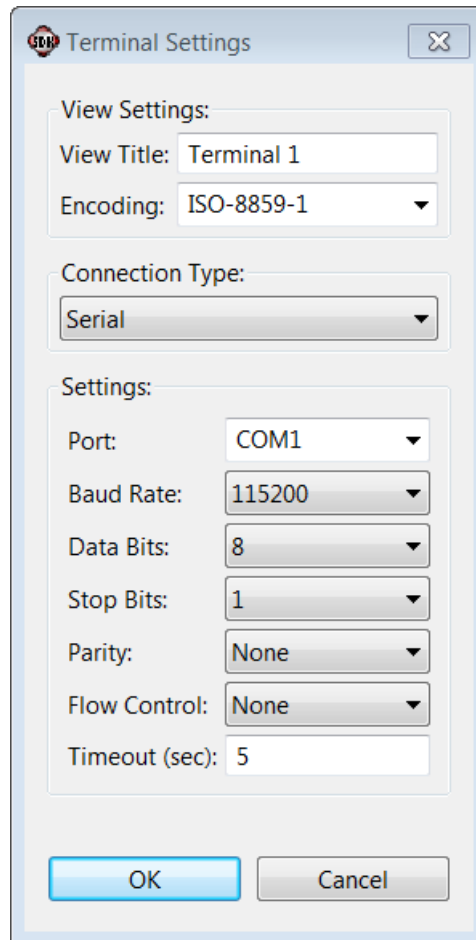

Figure 77: Terminal Settings
15. Use the following settings for the ZC702 board and click **OK** (FIGURE 77).